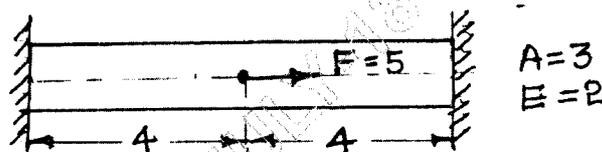

Fig.Q2(a)
- 2 a. Using Rayleigh – Ritz method, determine the displacement at midpoint and stress variation in a one dimensional rod as shown in Fig.Q2(a). (09 Marks)